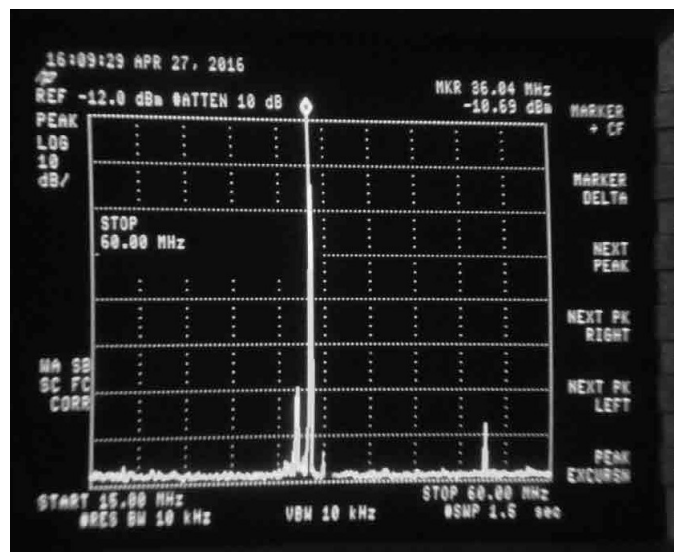

Figure 2 — A DDS Carrier 36 MHz, with “birdies” reduced by the band-pass filter.
Strong attenuation of the spurious signals can be achieved by placing a band-pass filter tuned to the DDS frequency between the output of DDS and the mixer Local Oscillator (LO) port. Figure 1 shows the measured spectrum of the DDS generating a carrier at 36 MHz without a filter. Figure 2 shows the same spectrum with the 36 MHz carrier, now filtered by a band-pass filter.